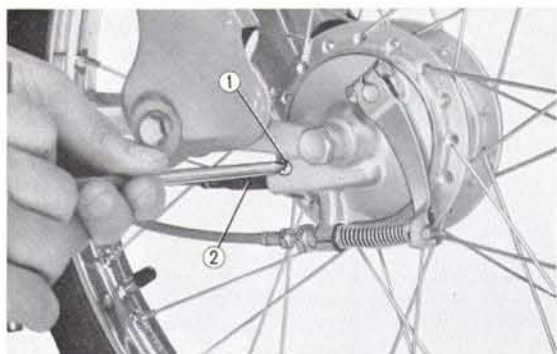

Fig. 4.1 ① 4×6 cross screw
2. Unscrew the 4×6 screw and disconnect the speedometer cable. (Fig. 4.1)